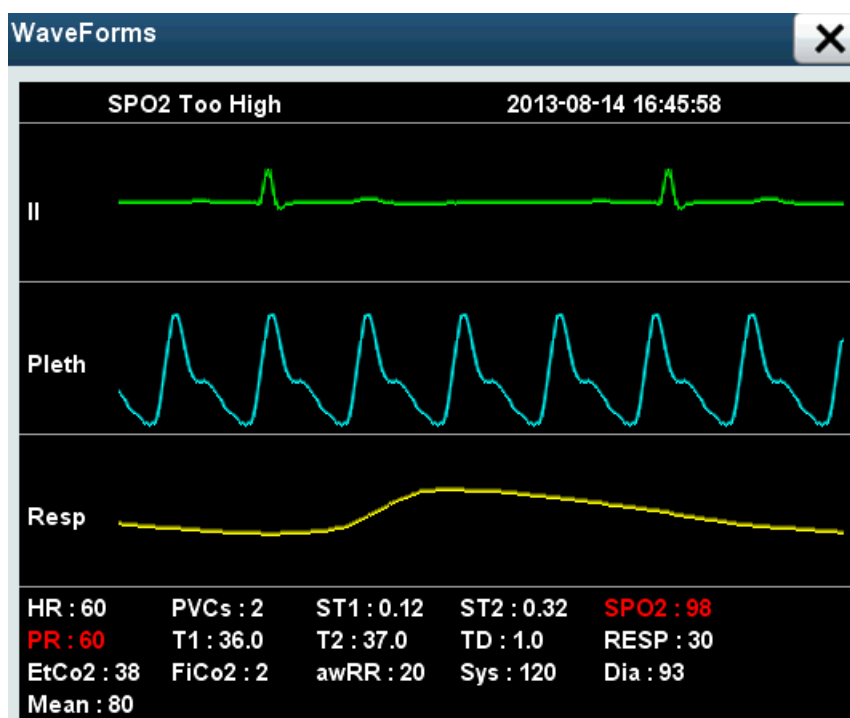

Fig. 13.5 Waveform Review
- Select [Wave Forms] to view the waveform and relevant parameters when alarm occurs, as shown in Fig. 13.5 below: